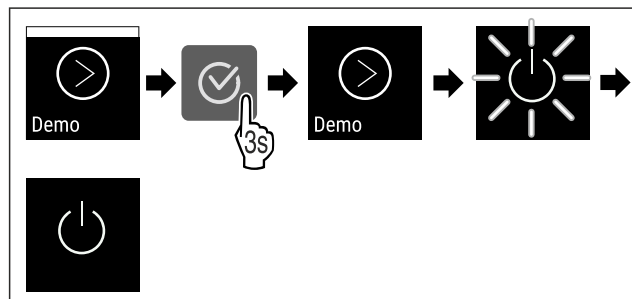

Fig. 91
- Complete steps (see Fig. 91) .